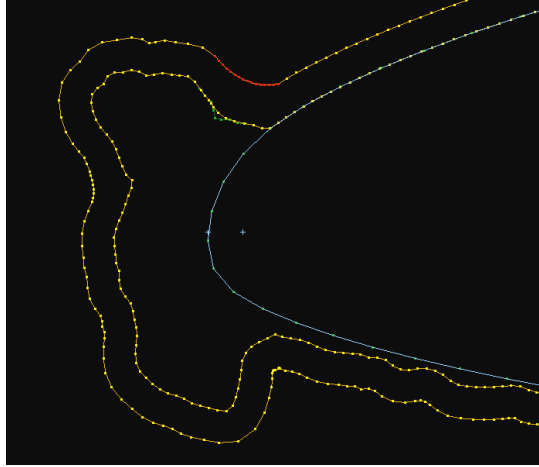

Figure 18. Subcurve on JMAX boundary of viscous sublayer after smoothing.
- Set the **Num. Control Pts** to 3. Reducing the number of control points has the effect of smoothing the curve. Press <Enter> and then **OK**. The graphics window should show an image similar to Figure 18.